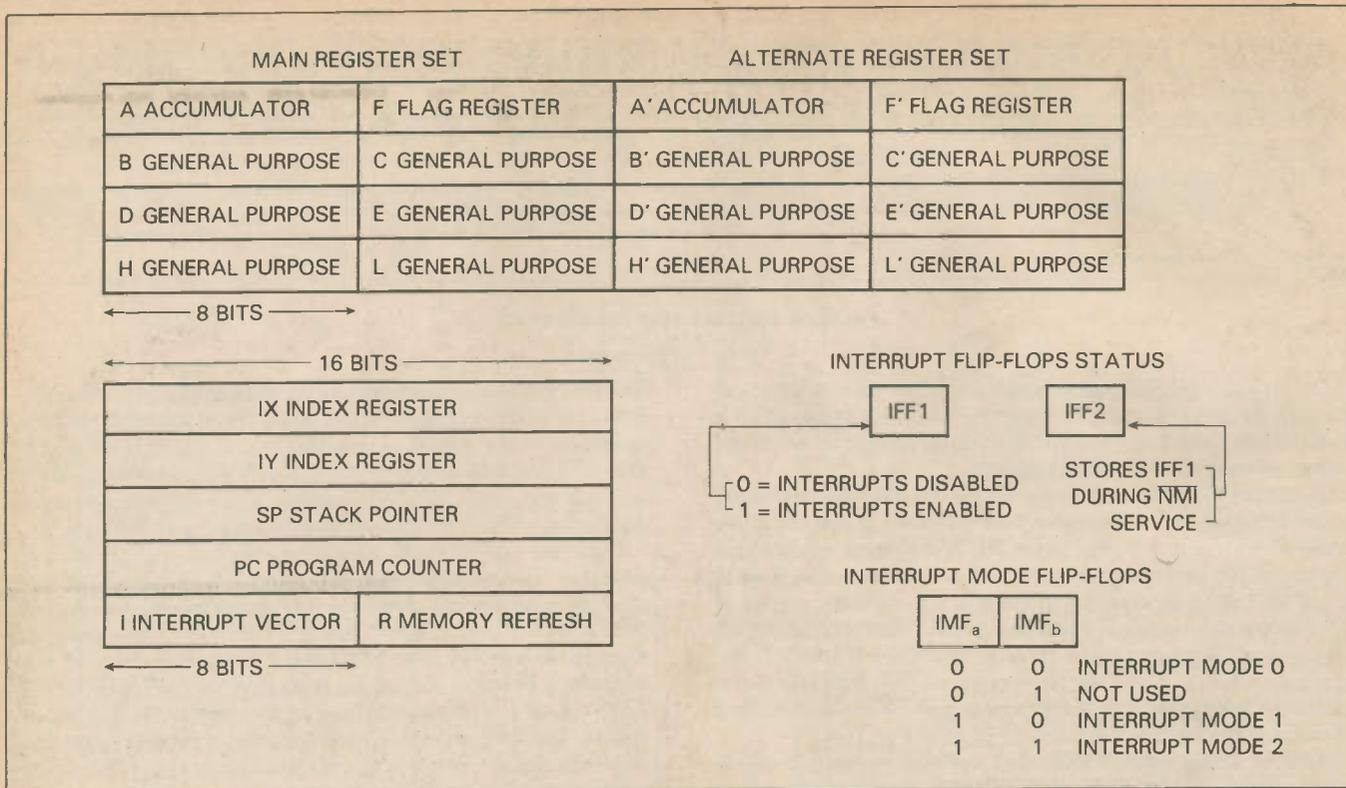

Fig. 6.8. Z80 programming model
Duplicate sets of both general-purpose and flag registers are provided, easing the design and operation of control software through rapid context switching. The programming model of the Z80 is shown in Fig. 6.8. There are essentially three groups of registers in the Z80. The first consist of duplicate sets of 8-bit registers; a principal set and an alternative set (indicated by the ' suffix). Both sets of registers have an accumulator, a flags register and six general-purpose registers. Transfer of data between these duplicate sets of registers is accomplished by means of "Exchange" instructions. The result is faster response to interrupts and easy, efficient implementation of such versatile techniques as background/foreground processing. The second set of registers have assigned functions: Interrupt Register (I), Refresh Register (R), Index Registers (IX and IY), Stack Pointer (SP), and the Program Counter (PC). The third group consists of two interrupt status flip-flops and two flip-flops to identify the current interrupt status mode. It is perhaps worth a brief look at some of the registers which may not be familiar from looking at other micros.